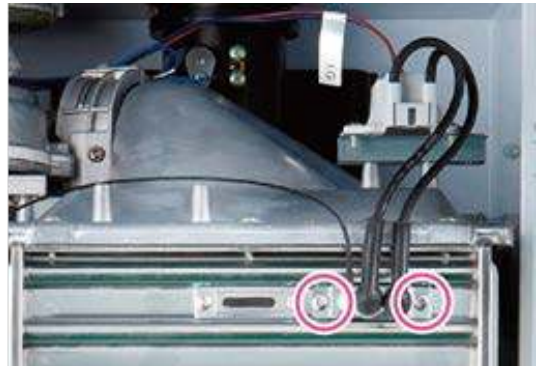

Figure 7
5. Remove the 2 screws from the flame rod as shown in Figure 7 below.
9. Place the new flame rod back onto the burner assembly and secure it by using the 2 screws from Figure 7.